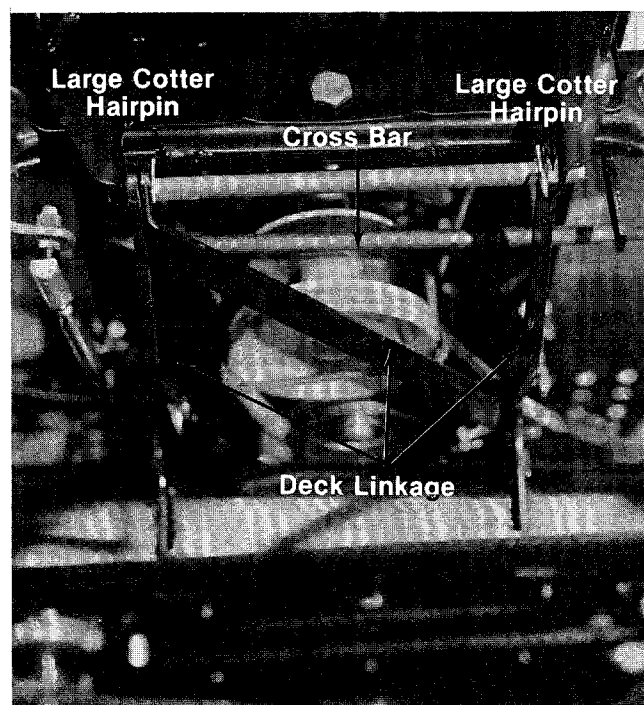

FIGURE 7.
9. Assemble the front cross bar as shown in figure 7 using two large cotter hairpins to attach the deck linkage to the tractor frame.